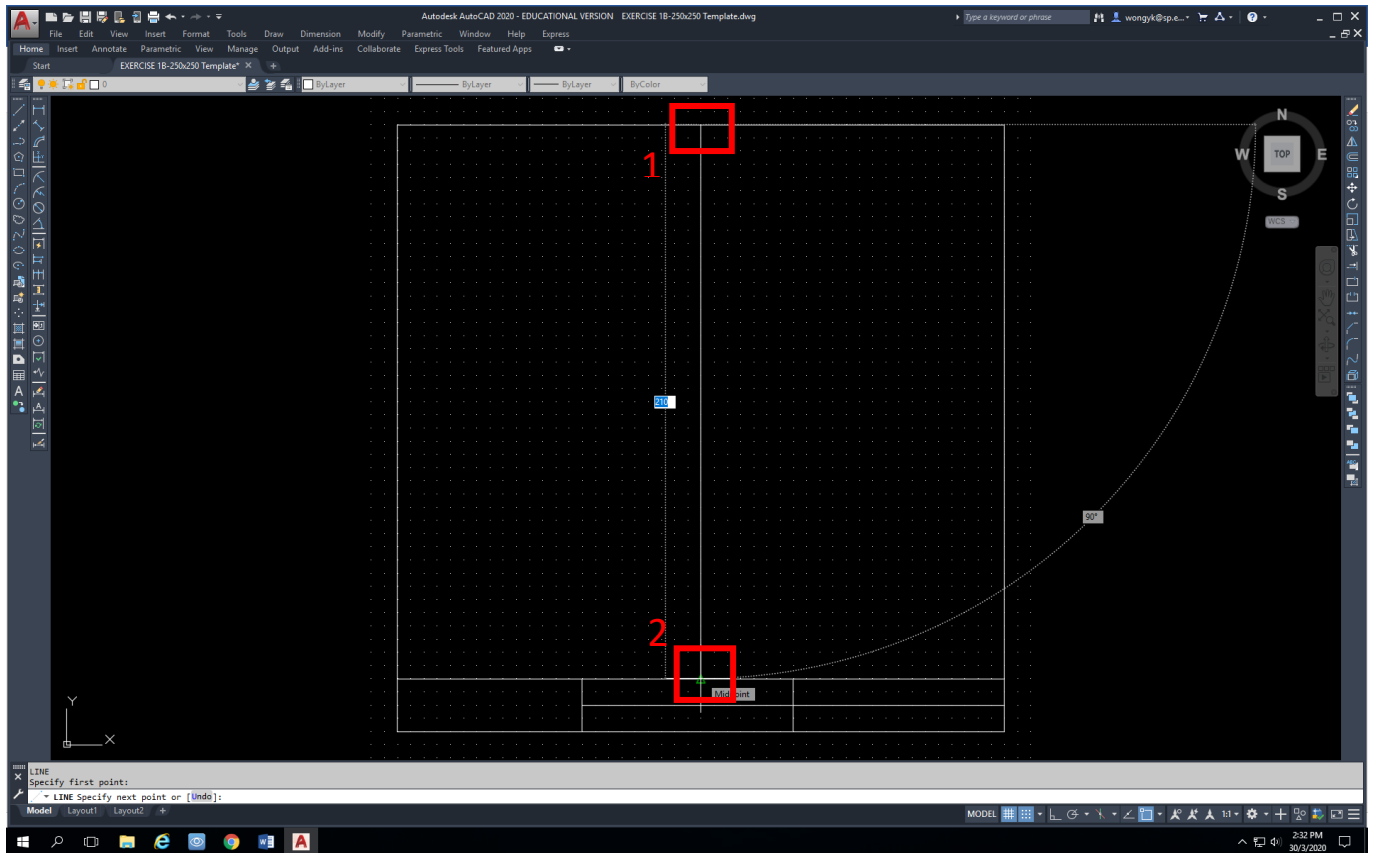

Fig 4
Draw a vertical line from midpoint top horizontal edge of rectangle (1) to the **top horizontal line of Title Block (2)** shown in Fig 4